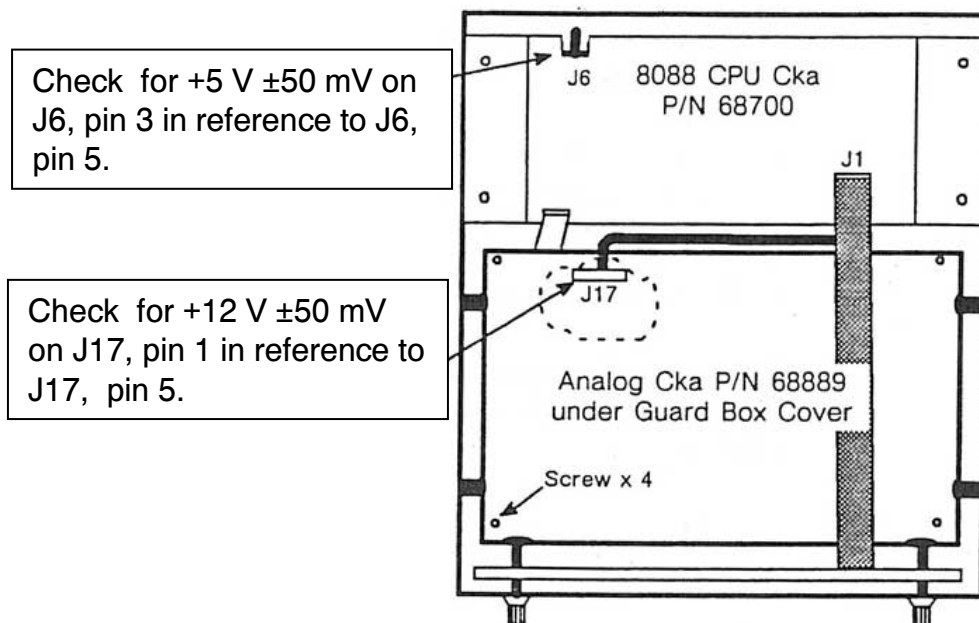

Figure 9-2. Power Connectors on 8088 CPU Cka and Analog Cka
4. Remove the Guard Box cover by disconnecting J1 on the 8088 CPU Cka and the four screws at each corner of the cover. After the cover is removed, reconnect J1. Refer to Figure 9-2.
5. Disconnect J6 and J17 shown in Figure 9-3. Apply power and check for the proper voltage on as shown in Figure 9-2.
- If a power supply output is low, try to adjust VR2 on the +12 V supply or VR2 on the +5 V supply for the proper voltage as shown in Figure 9-2. Replace the supply if you can't adjust it to the proper level. If the power supply does adjust, reconnect J6, J17, and J1 then adjust the supplies again for the proper voltage when under load.
2. Remove the Guard Box cover by disconnecting J1 on the 8088 CPU Cka and the four screws at each corner of the cover. After the cover is removed, reconnect J1. Refer to Figure 9-2.